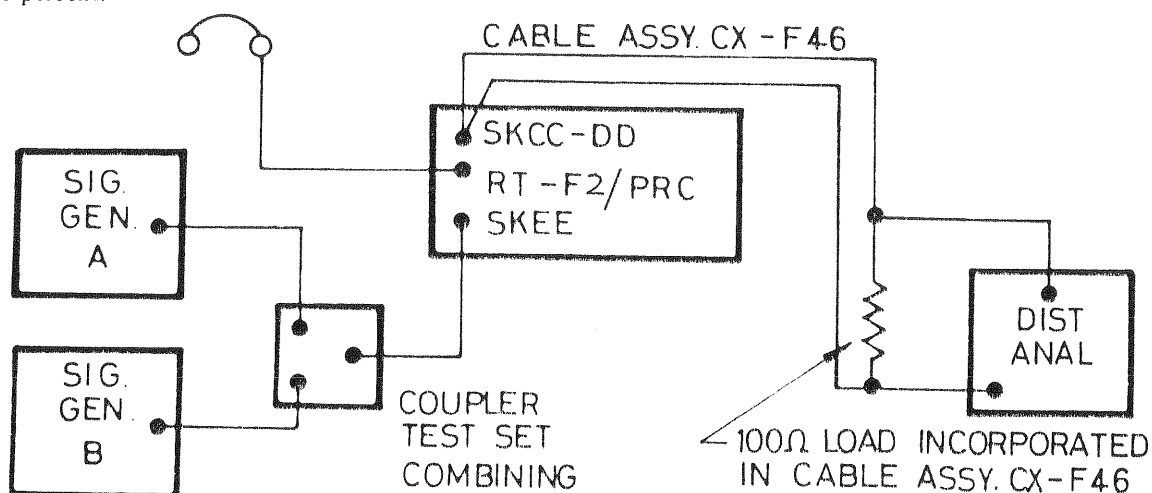

FIG 4 — RECEIVER CROSS MODULATION — TEST SET-UP
- Set up the equipment as shown in Fig 4.
- d. Set one signal generator (A) to 2 500 kHz (using the Counter) and set its output to 200  $\mu$ V. Set the modulation to 1000 Hz and depth 20 per cent.
- e. Set the other signal generator (B) to a frequency about 20 per cent above A, ie 3000 kHz, and its output to 20 mV. Set its modulation to 1000 Hz and depth 30 per cent.
- f. Adjust the VOL control for an audio output of 1 mW (0 dB) or 0.316 V RMS on the Distortion Analyser. Switch Generator (A) modulation OFF.
- g. Slowly tune generator (B) towards 2500 kHz until the receiver audio output is 0 dB measured as detailed in sub-paragraph f. Check that the output is that due to generator (B) by switching the modulation off; the tone should disappear. Measure the output frequency of generator (B). This should not be greater than 2530 kHz.
- h. Repeat the test detailed in sub-paragraph g, starting from a frequency approximately 20 per cent below the frequency of generator (A). The output frequency of generator (B) should not be less than 2470 kHz.